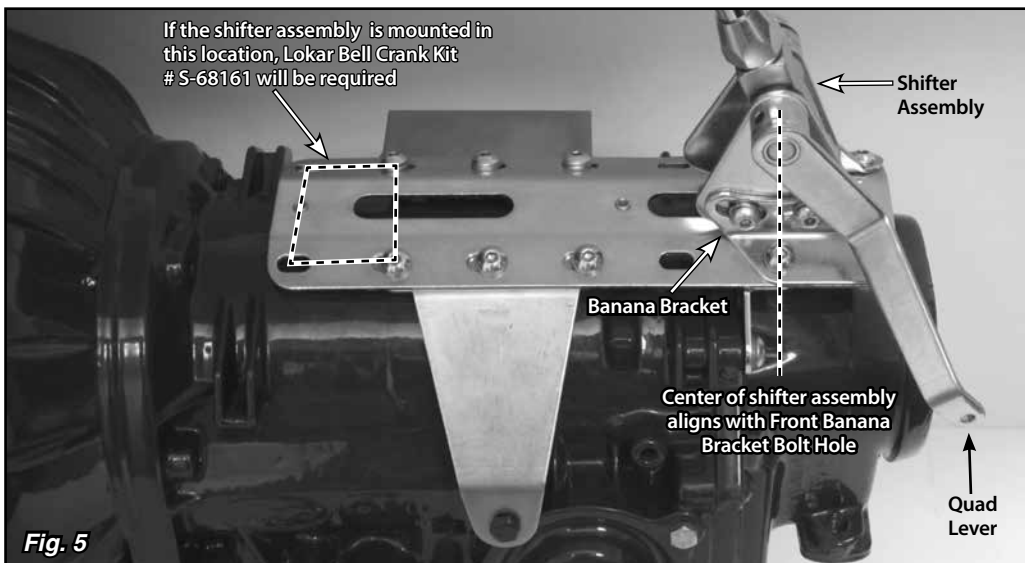

Fig. 5
**Step 8: (Continued)** Transfer that measurement to the transmission (or to the engine/transmission assembly if the engine is not installed in the vehicle). Mark that location on the main plate. The holes in the main plate that are closest to your mark are where the FRONT banana bracket bolts will need to be installed. **Fig. 5**
**NOTE:** If mounting the shifter assembly all the way forward, using the four bolt holes at the very front of the main plate, a **bell crank kit (Lokar Part No. S-68161, sold separately)** will be required. **Fig. 5**